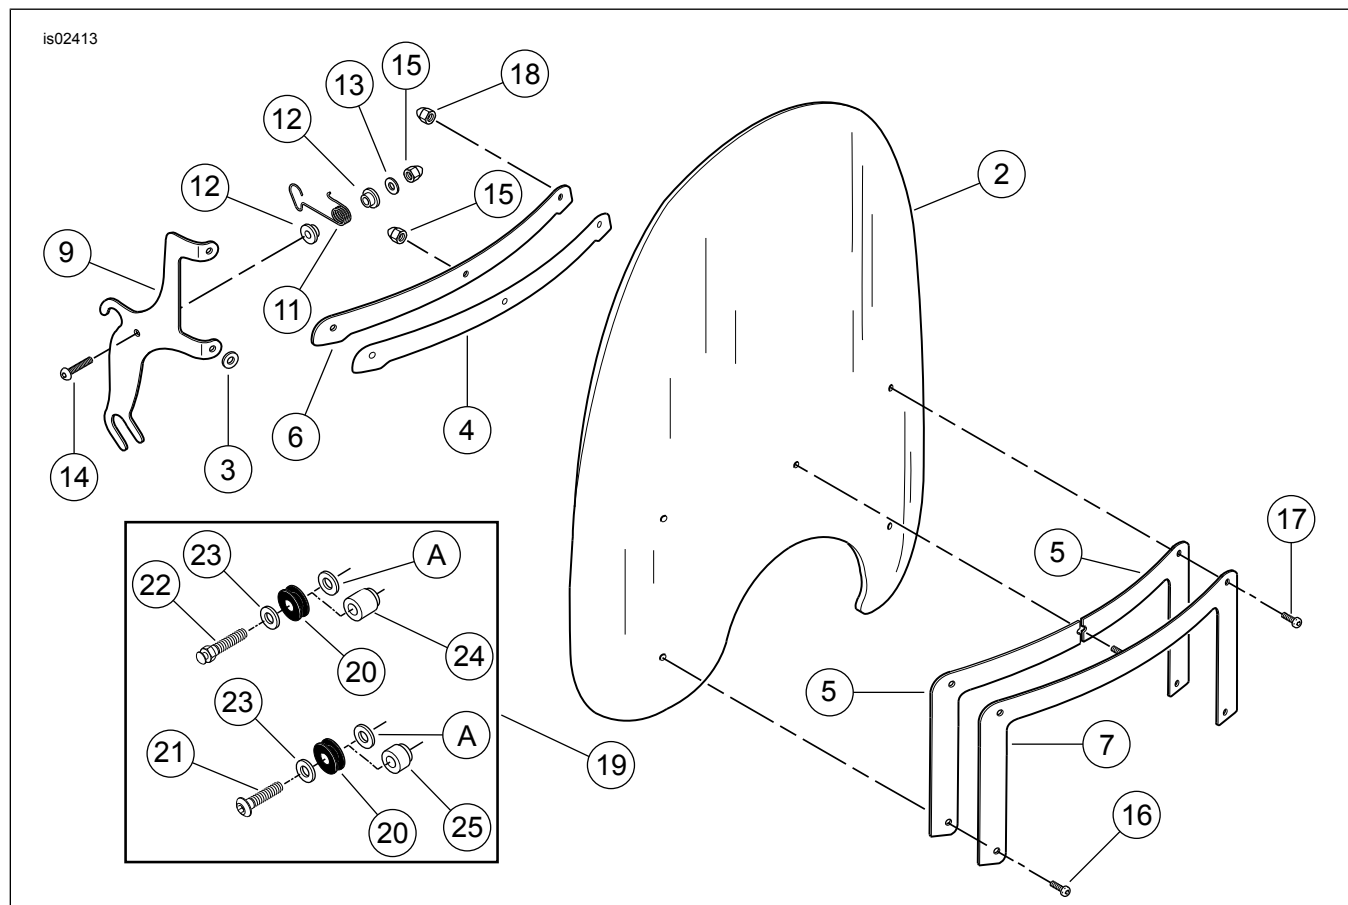

Figure 4. Service Parts: Detachable Windshield
See Figure 4 and Table 2.
2. See the Figure 4. Select a mushroom head chrome screw (2) from the kit. Place a flat washer (3) over the screw threads, followed by a bushing (4) and the flat washer (A) saved in Step 1.
4. Remove the bottom screw and washer. The screw can be discarded, but retain the washer. Select a button head chrome screw (4) from the kit. Place a flat washer (3) over the screw threads, followed by a bushing (4) and the saved flat washer (A).